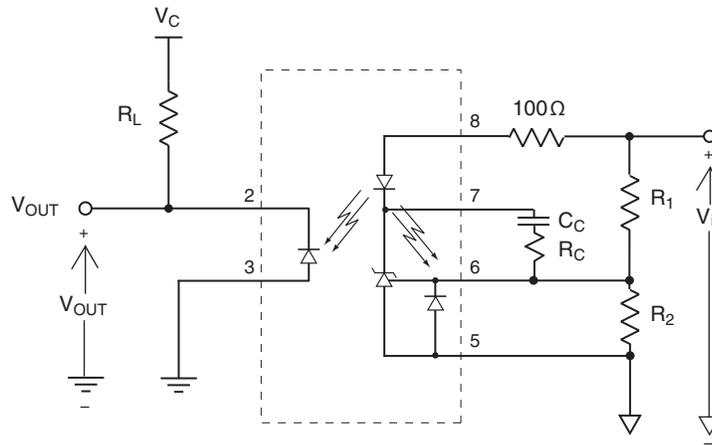

Fig. 6. Power Supply Feedback Application Circuit
2. The dynamic impedance is defined as $|Z_{OUT}| = \Delta V_{COMP}/\Delta I_{LED}$, for the application circuit in Figure 6, $|Z_{OUT}| = K_1 R_1$
Setting the gain for the LIA120 is accomplished simply by setting two resistors. The application circuit in Figure 6 shows a resistor divider feeding the FB pin, so the operating conditions for the gain are governed by: